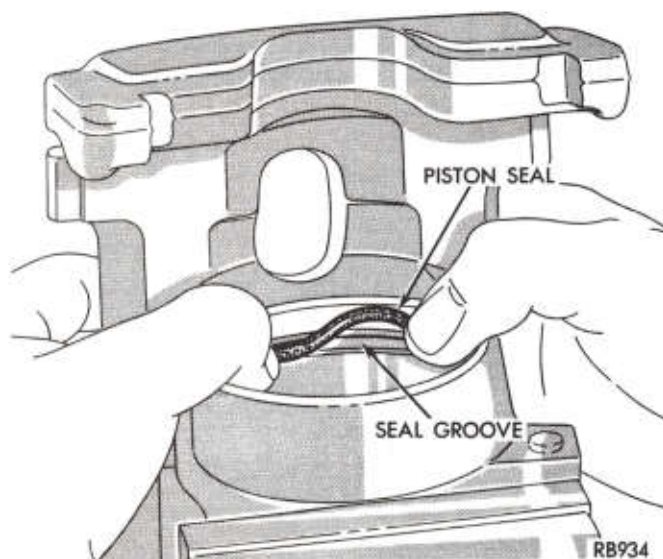
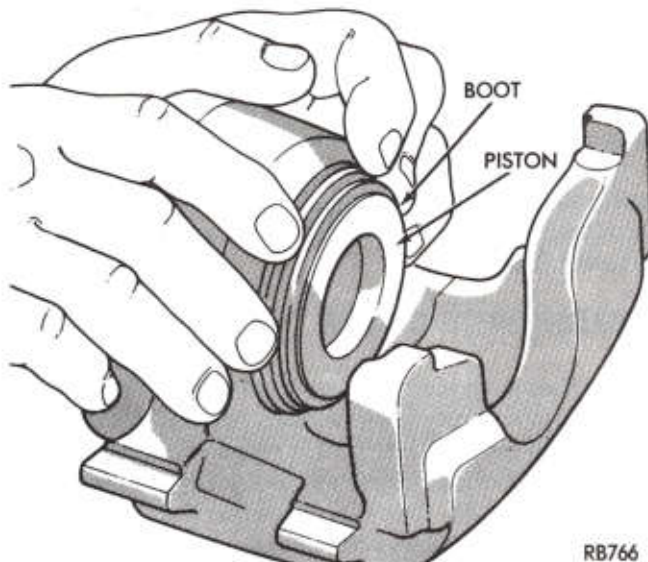

Fig. 15—Installing Piston Seal
Fig. 16—Installing Piston through Boot
(2) Dip new piston seal in clean brake fluid and install in groove in bore. Seal should be positioned at one area in groove and gently worked around the groove, using fingers, until properly seated. Make sure that fingers are clean. **Never use an old piston seal. (Be sure seal is not twisted or rolled) (Fig. 15).**
(3) Coat new piston boot with clean brake fluid leaving a generous amount inside of boot.
(4) Position dust boot over piston.
(5) Install piston into bore pushing it past the piston seal until the piston bottoms in the bore (Fig. 16).